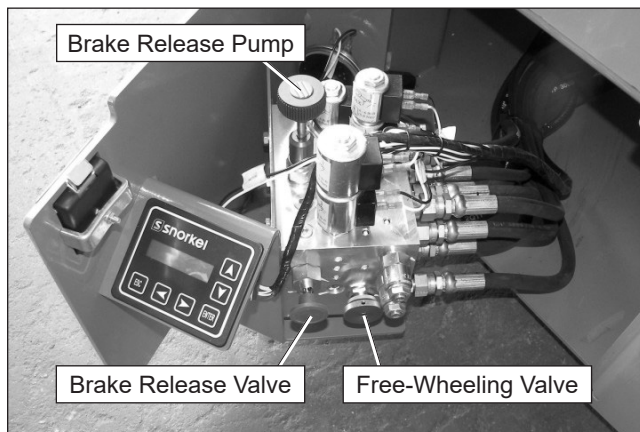

Figure 11.3 – Hydraulic Tray
2. Unlatch and swing out the control valve tray on the right side of the machine. The brake release valve and free-wheeling valve are located on the side of the hydraulic manifold. The brake release pump is on the top of the valve (refer to Figure 11.3).